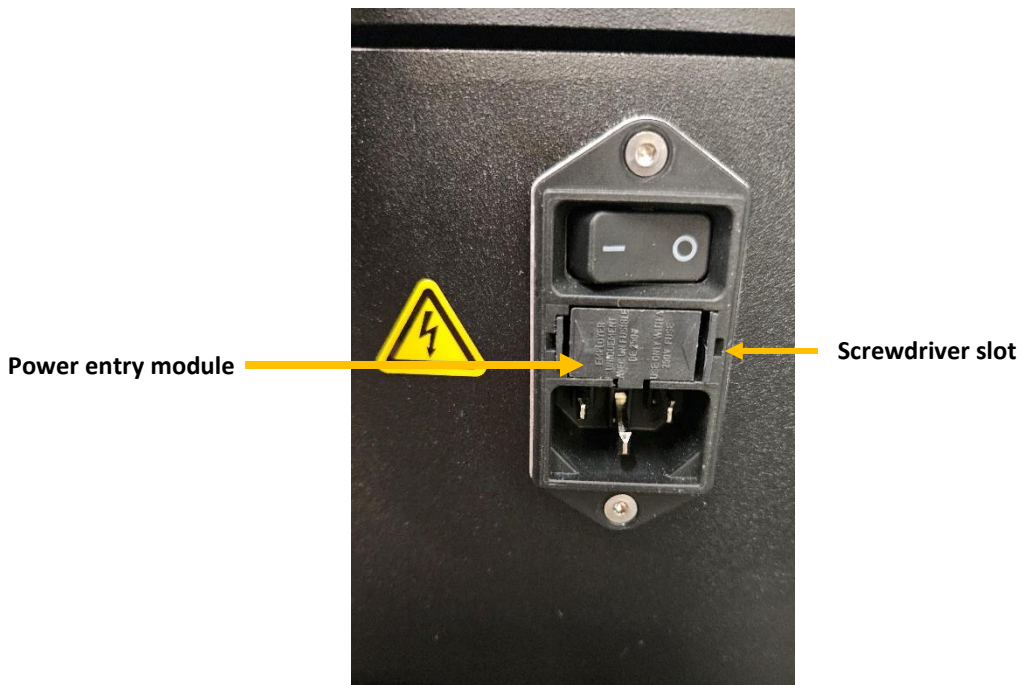

Figure 45. Fuse Replacement; Main Power
2. Remove the cover of the power entry module using a screwdriver in the screwdriver slot (Refer to **Figure 45**).